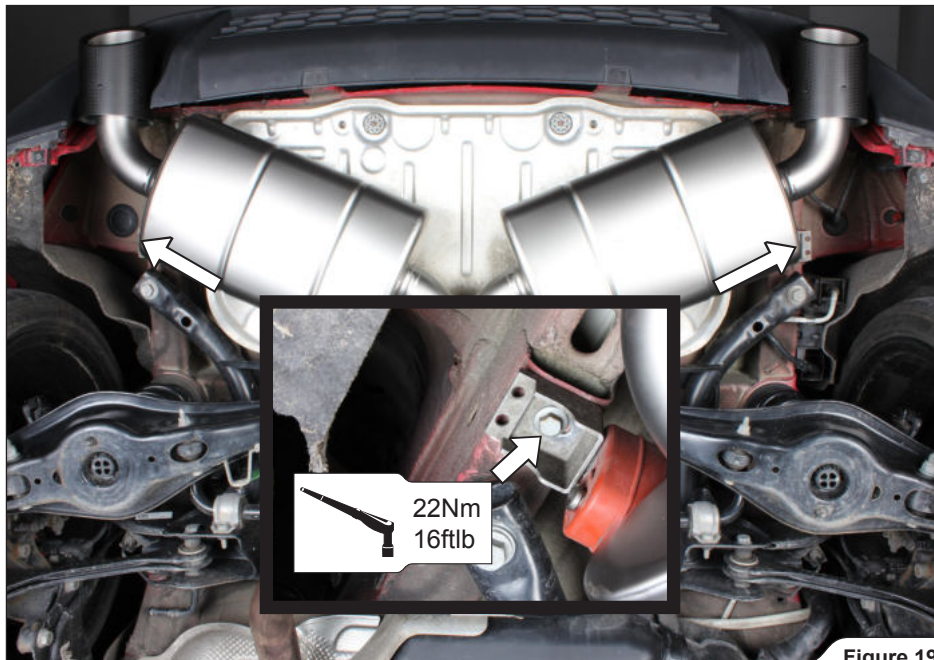

Figure 19
- Slide the muffler onto the Link Pipe and tighten the stock muffler's rubber brackets onto the vehicle chassis (**Figure 19**).